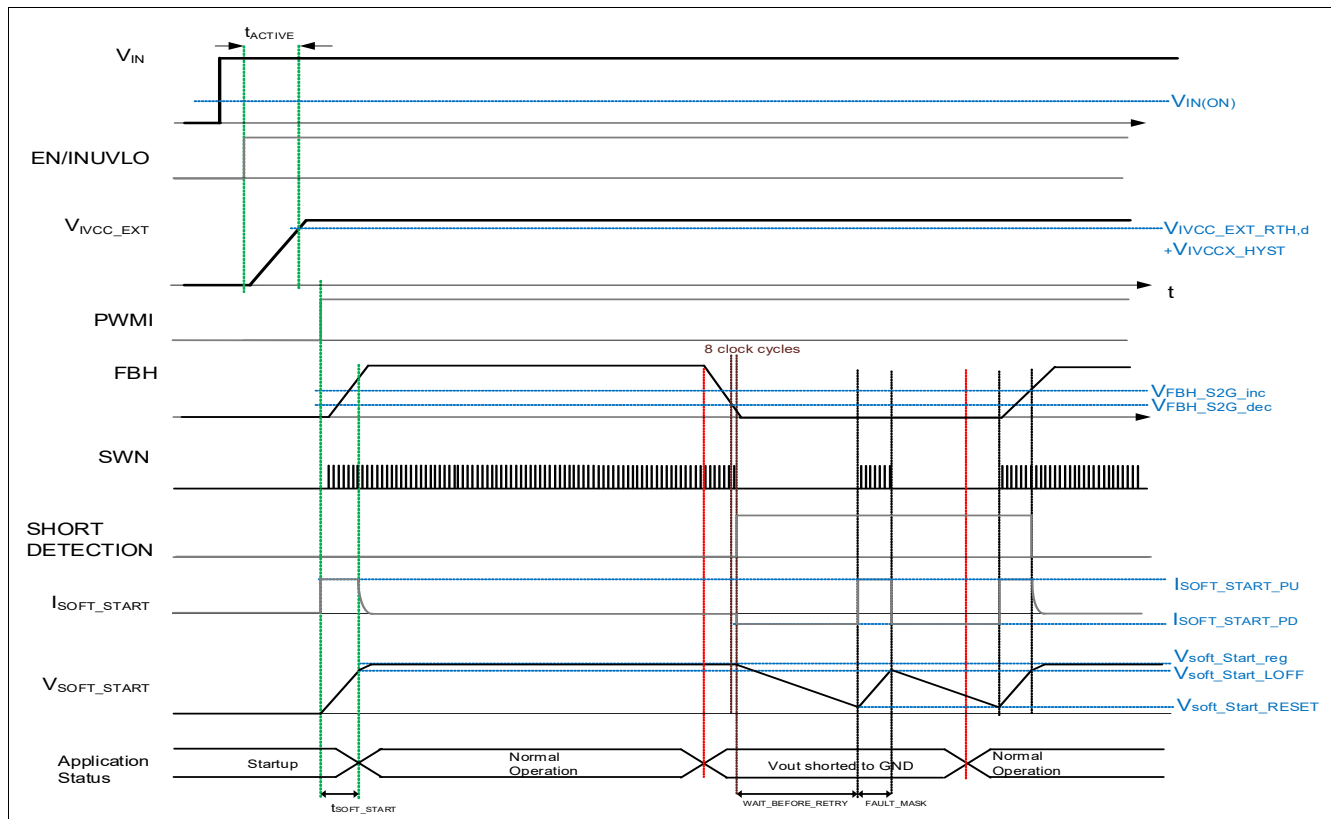

Figure 8 Soft Start timing diagram on a short to ground detected by the FBH pin
- Fault management: fault mask and wait-before-retry time (**Figure 8** and chapter **Chapter 10.2**)